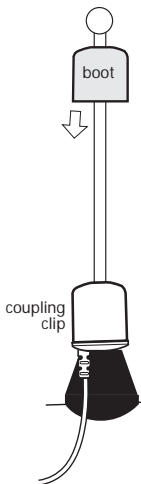
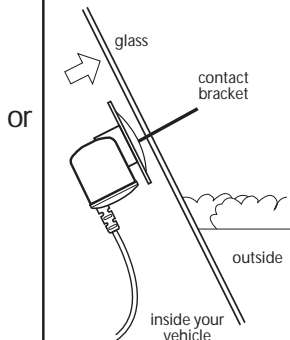

Figure 1b
Figure 1c
2. Now that you have located your vehicle's FM antenna, determine the best routing method to get the XM SureConnect output cable to the FM antenna. For **external antennas** (Figure 1b), the Coupling Clip needs to be routed outside the vehicle. For **internal on-glass antennas** (Figure 1c), all routing is inside the passenger compartment and the Contact Bracket is used.